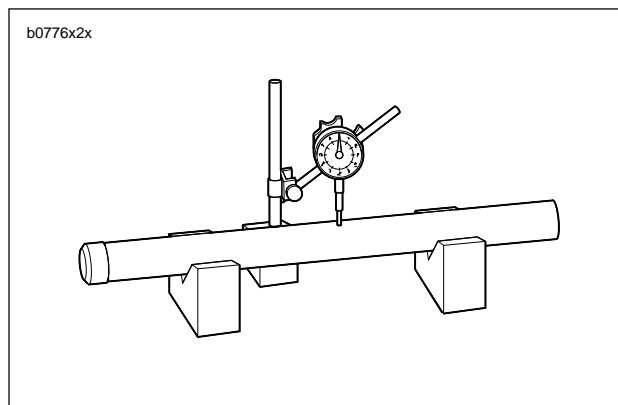

Figure 2-67. Slider fork Runout
3. Check the slide bushing (21) and the guide bushing (22) for excessive wear or scratches. Replace if damaged or worn.
4. Replace the stopper ring (19) if distorted.
5. Measure spring (16) free length. Replace springs shorter than service wear limit of 9.13 in. (232 mm).
6. See Figure 2-67. Measure slider fork runout. Replace pipe if runout exceeds the service wear limit of 0.008 in. (0.2 mm).